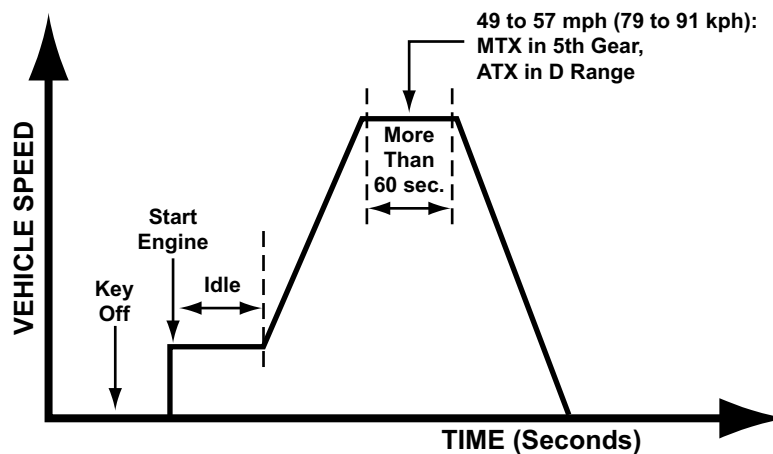

Figure MA000-24
3. Drive vehicle as shown in Figure MA000-24.